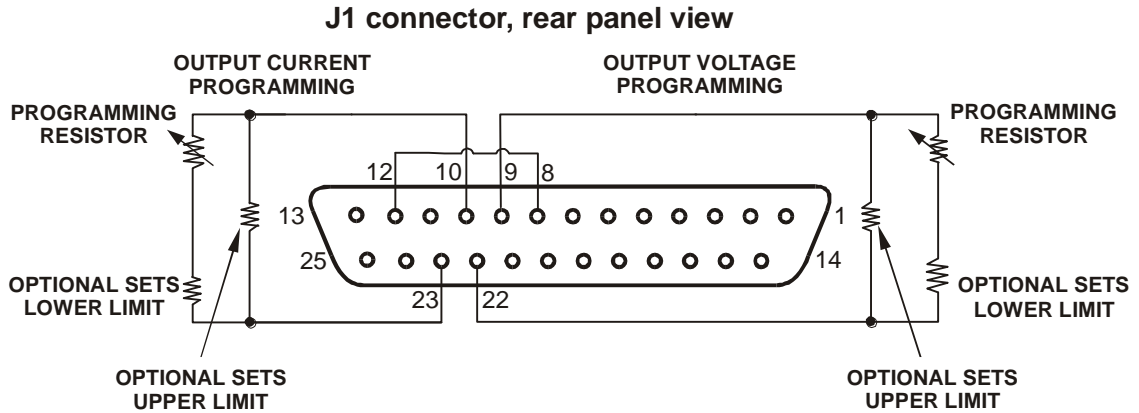

Fig.6-2: Remote resistive programming
6. Connect the programming resistors to the mating plug of J1 as shown in Fig.6-2.